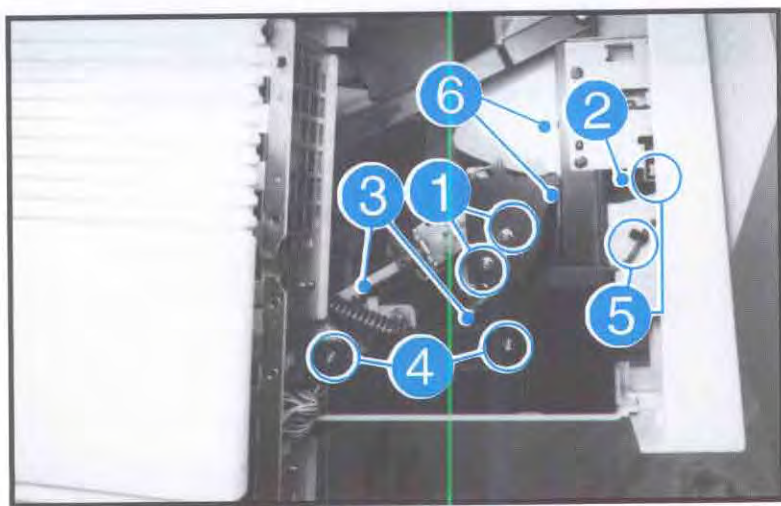
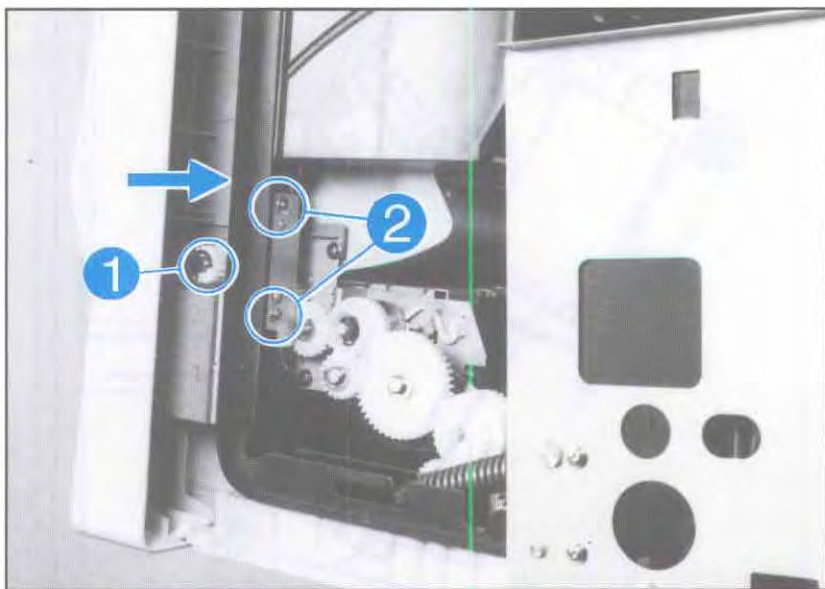

Figure 6-43. Job Offset Assembly
Figure 6-44. Job Offset Assembly (continued)
3. From the right end of the Top Cover Assembly, remove the (2) screws that hold the plastic Solenoid Cover (see Figure 6-43, callout 1).
4. From the left end of the printer, push the Job Offset Roller gear inward until it latches (see Figure 6-44, callout 1). (This allows easier access to the sensor flag removed in the next step.) In some instances, the gear may already be latched.
5. Use a long shank screwdriver to remove the (1) screw and the Sensor Flag on the right side of the Output Roller Shaft. Access this screw from the right end of the Top Cover Assembly. It is 2 inches behind the silver bracket, next to the E-clip on the Output Roller Shaft (see Figure 6-43, callout 2.)
6. Note how the solenoid linkages connect to the Job Offset Assembly, then lift the ends upward to detach the (2) solenoid linkages between the Job Offset Assembly and the Delivery Roller Assembly (see Figure 6-43, callout 3).
7. Note how the cable is routed in the plastic housing then remove the (2) screws securing the Cable Cover (see Figure 6-43, callout 4). Remove the Cable Cover.
8. Unplug the (1) connector from the photosensor and remove the cable from the retaining clamp (see Figure 6-43, callout 5).
10. Remove the (4) screws (2 on each side), securing the Job Offset Assembly and remove the assembly (see Figure 6-44, callout 2 and Figure 6-43, callout 6).
2. Note the orientation of the solenoid linkages for reference during re-installation, then detach the (2) solenoid linkages between the Job Offset Assembly and the Delivery Roller Assembly (see Figure 6-43, callout 3). *Do not* remove the solenoids.